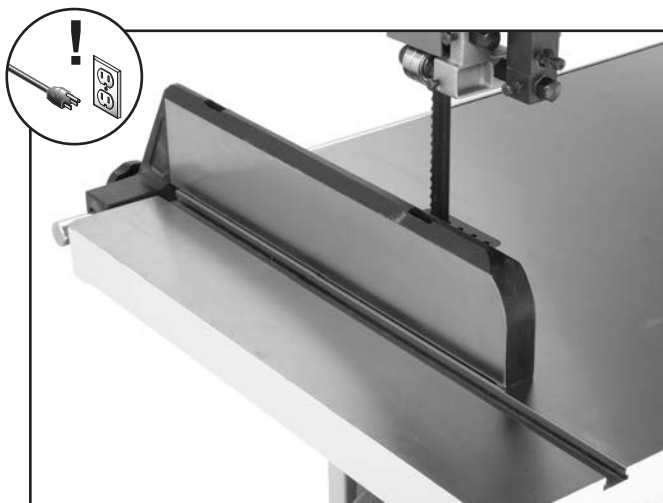

Figure 6. Example of fence parallel with miter slot.
4. Adjust fence face parallel with edge of miter slot, as shown in **Figure 6**.